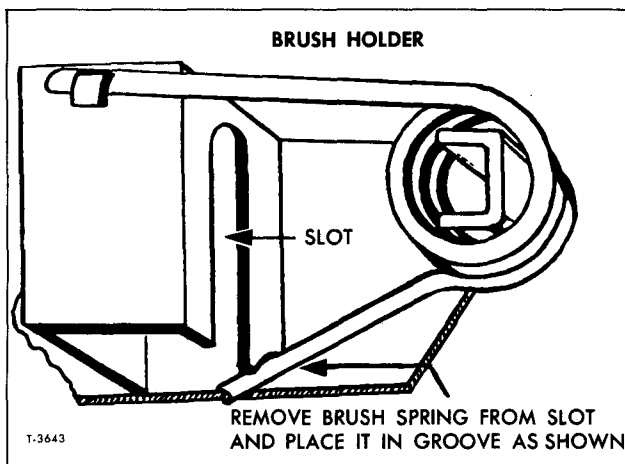

Figure 15—Releasing Brush Spring Tension
2. Remove brush tension by placing brush spring in holder groove as shown in figure 15.